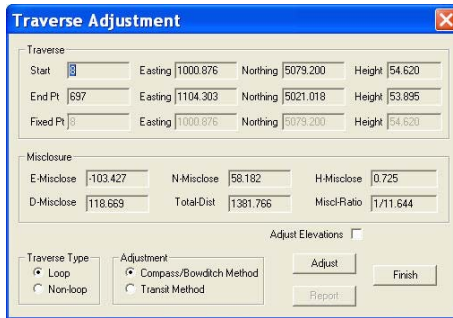

Figure 12-30. Traverse Adjustment Dialog Box
4. Right-click and click **Adjust Traverse** from the shortcut menu. The **Traverse Adjustment** dialog box appears (Figure 12-30 on page 12-27).